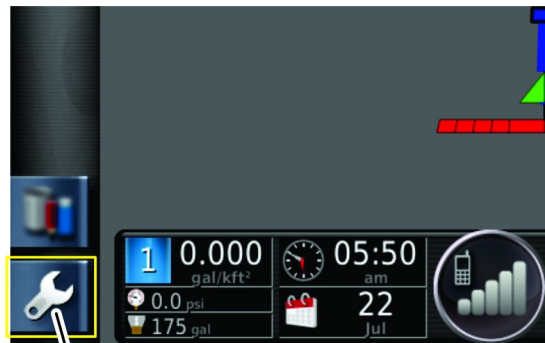

Figure 286
3. Press the SETUP icon on the main screen (Figure 286).